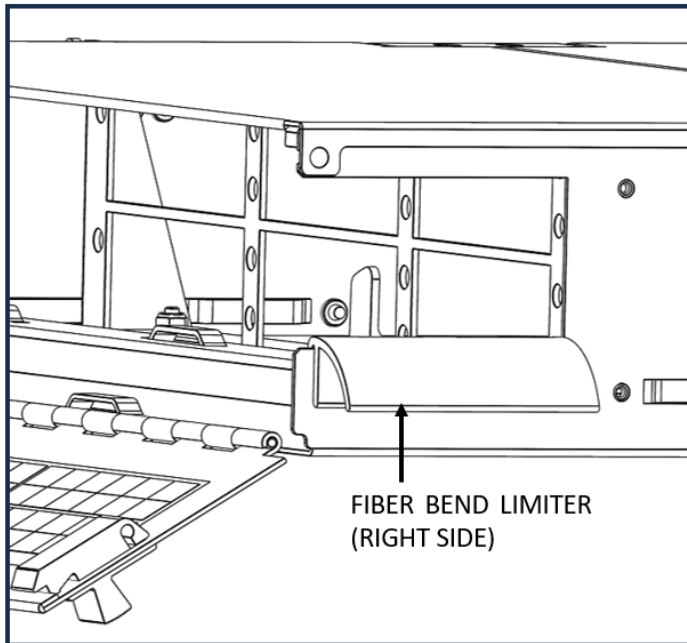

Figure 4
- 5.5) Attach bend limiters to the enclosure as shown in Figures 4 & 4a (will be provided in black but shown in white for clarity).